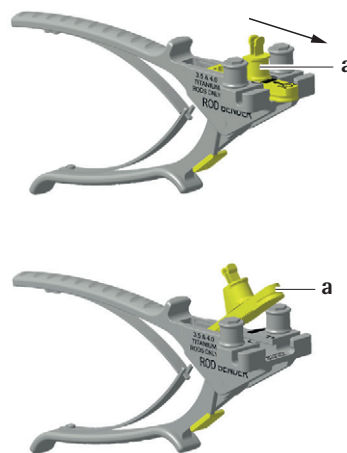

Fig. 63
- ▶ Push the central roller **a** all the way forward until it is free to flip up. It is not intended to completely be loose, see Fig. 63.